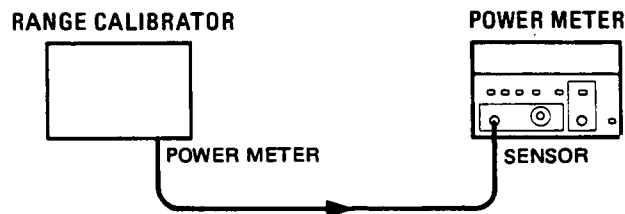

Figure 4-3. Calibration Factor Test Setup
3. Connect the equipment as shown in Figure 4-3.